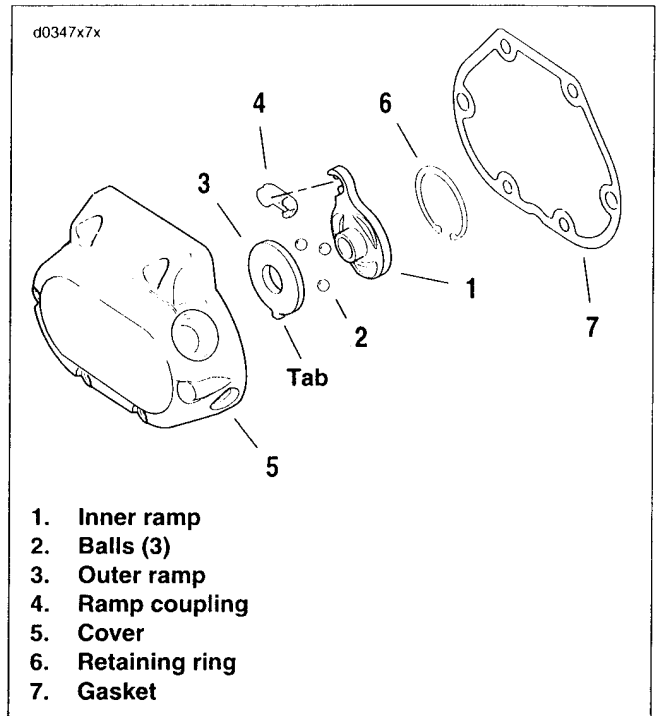

Figure 7-20. Release Mechanism Assembly
1. See Figure 7-20. Wash the ball and ramp mechanism components in cleaning solvent.
2. Inspect the three balls (2) and ball socket surfaces on ramps (1, 3) for wear, pitting, surface breakdown and other damage. Replace damaged parts.
3. Check fit of the ramp coupling (4) on inner ramp (1). Replace both parts if there is excessive wear.
5. Check the bore in the cover (5) where the ramps (1, 3) are retained. There should be no wear. Lips worn into the bore that would catch the ramps and cock them, causing improper clutch adjustment.
2. See Figure 7-20. Place outer ramp (3) in side cover (5) and place balls (2) in slots. Be sure tab is in clutch release cover slot.
3. Connect cable end to ramp coupling (4). Install coupling on inner ramp (1) and place inner ramp and coupling in position in clutch release cover (5).